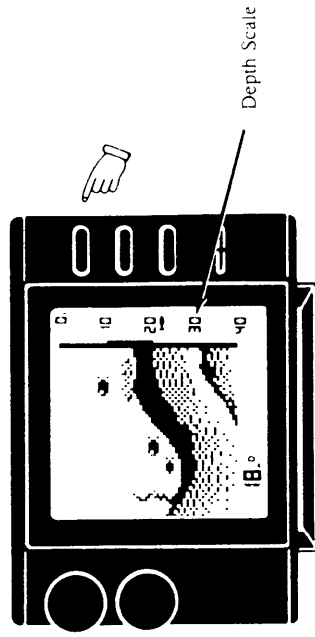

Figure 9—*Changing the Depth Range*
When the **Echo 220** is first turned on, the depth range is set at 0-30 feet, 0-6 fathoms or 0-6 meters, depending on the display units chosen on the opening screen. To change the Depth Range, press either side of the button labeled "**Depth**". If you press the side with the up symbol (Λ) the depth range will decrease (more shallow) and if you press the side with the down symbol (V) the depth range will increase (deeper). Each time you press the button the **Echo 220** will "beep" and you can see the new depth scale numbers on the right side of the LCD display. See *Figure 9* below.